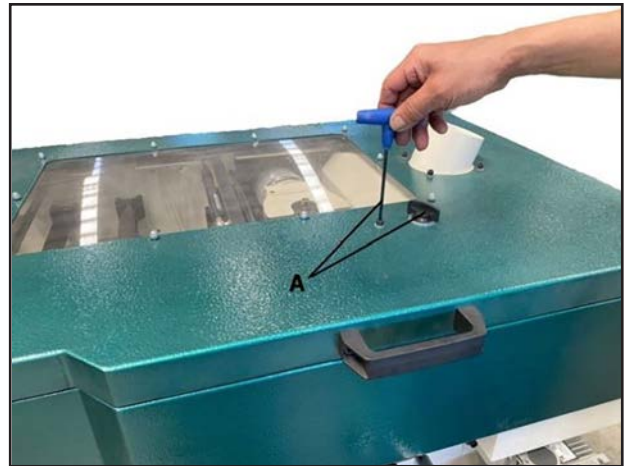

**Figure 23.** Location of top door components.
2. Remove the button head screw and turn the door knob (A) clockwise to unlock the top door (see **Figure 23**).